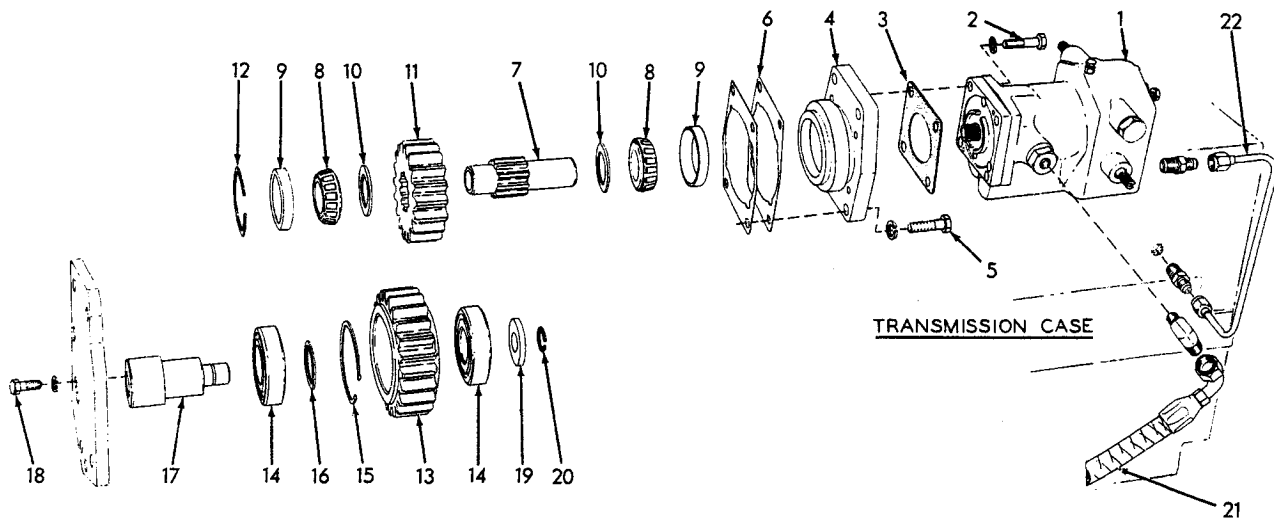

Fig. 45 -- Travel Speed Governor Drive
- a. Models equipped with travel speed governor, hold bearing retainer, Fig. 45 (4) (without shims) firmly against bearing